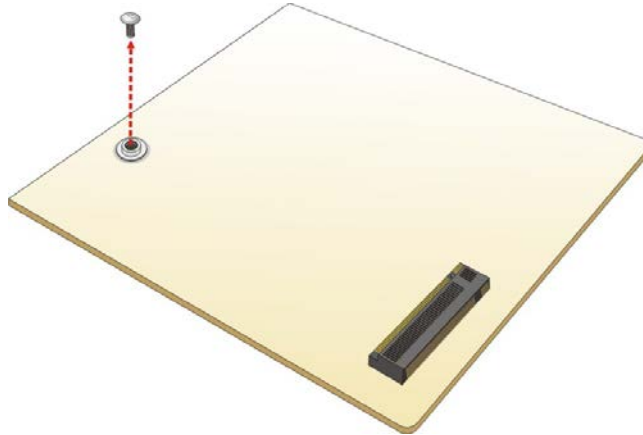

Figure 3-10: Removing the M.2 Module Retention Screw
- Step 3:** Remove the on-board retention screw as shown in **Figure 3-10**.